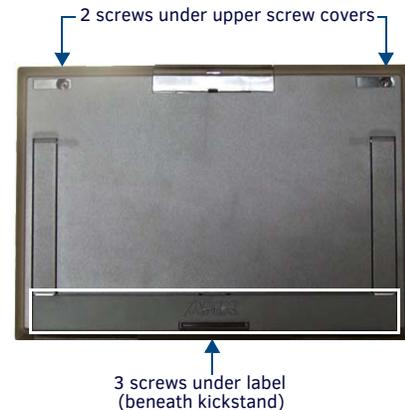

FIG. 3 PLACEMENT OF SCREWS ON THE BACK OF THE MVP-9000I
6. Remove the five screws from the back of the device (FIG. 3).